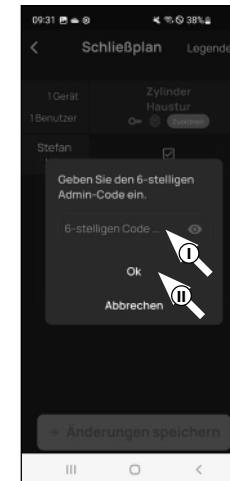

Fig. 5
- Here you will be asked to verify yourself with your administrator code. Enter the code and confirm with "OK" (Fig. 5).